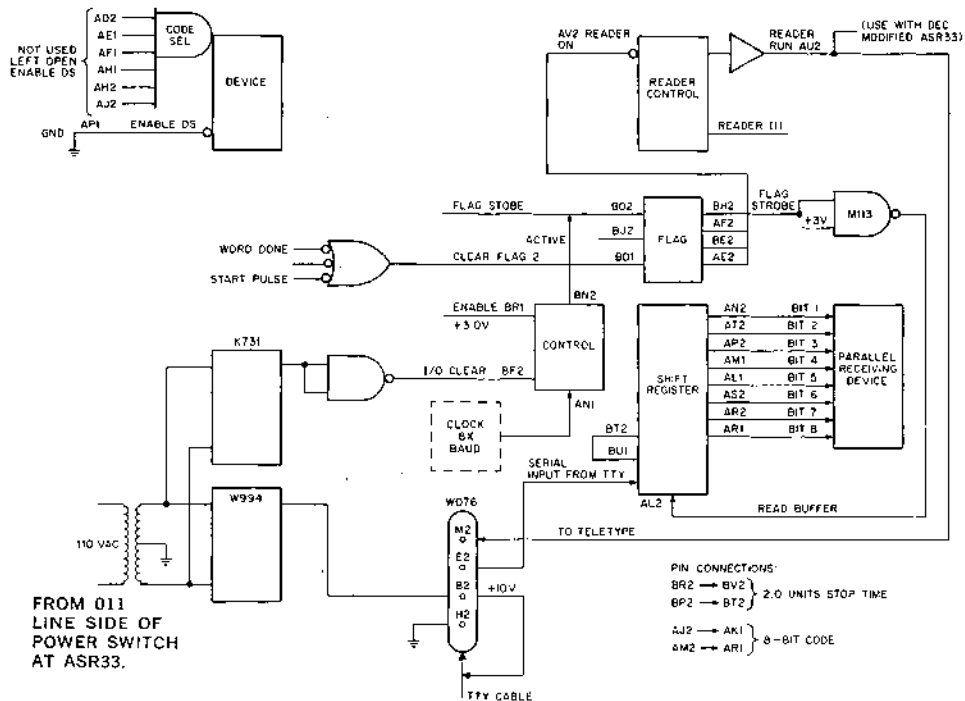

Figure 1
The serial input must be preceded by a start pulse and followed by two (2) stop pulses (see Timing Diagram). Provision has been made to select the width of the stop pulse from 1.0 units to 1.5 or 2 units long; this also can be done by selecting the proper pins on the socket (see Figure 1).
Figure 1 shows the M706 Teletype Receiver used independently of a computer.
Another feature included in the M707 is device selection. This allows the module to be used on the positive bus of the PDP-8/I and PDP-8/L and provides the necessary logic so that it can be used in a half duplex system with the M706 Teletype Receiver (see Figure 1).